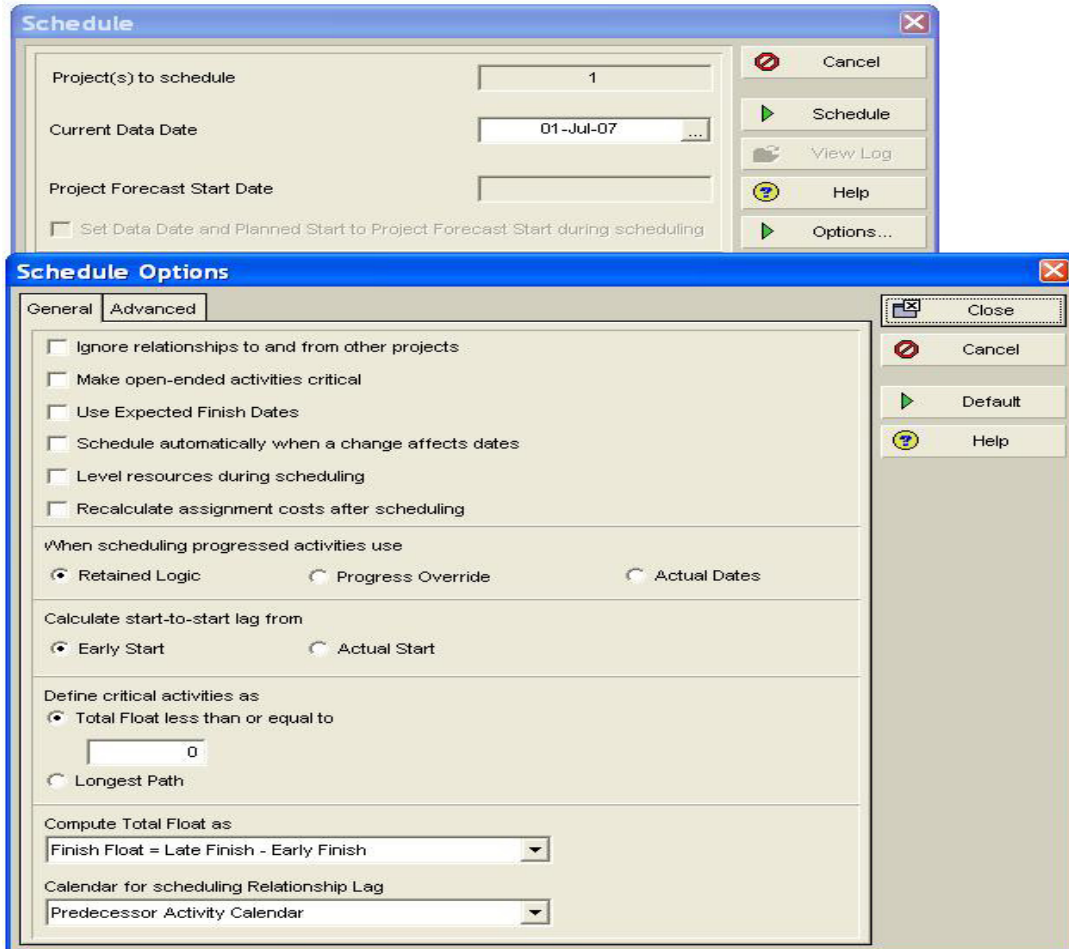

Figure 11 – Basic Schedule Options
- Basic Schedule Options – Refer Figure 11